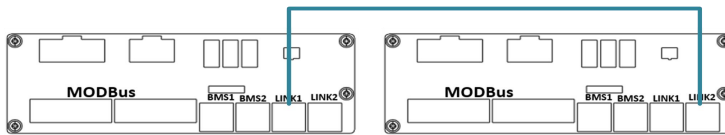

Figure 6.15 Interface diagram
If multiple inverters are used, connect the terminal of the network cable to LINK1 of the first inverter, connect the other end to LINK2 of the second inverter, and so on. Figure 6.15 shows the sequence of the network cable connection.
- 4.Parallel standard wiring as shown in 6.2.6 Figure 6.15 (structure schematic, non-electrical wiring standard, need to connect the circuit breaker correctly according to the electrical wiring diagram).